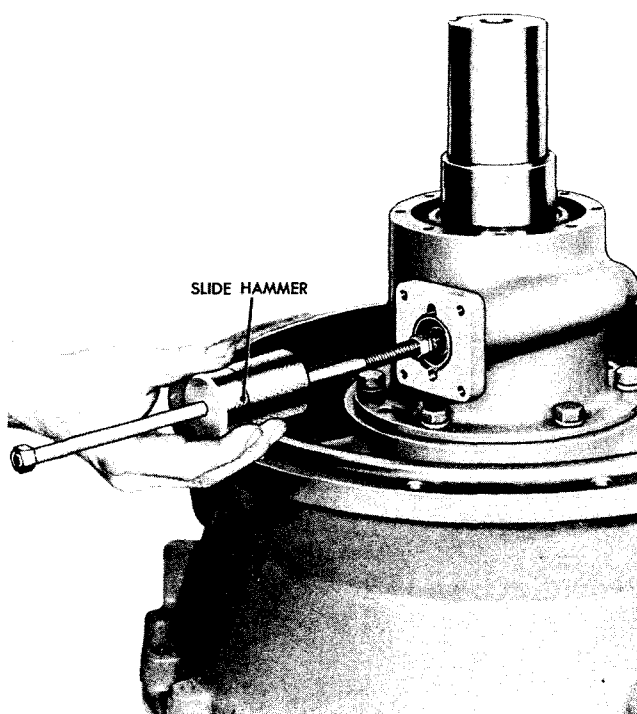

Fig VI-25. Removing accessory drive shaft
(5) Install a slide hammer puller into the accessory drive shaft (fig. VI-25). Remove the accessory drive spacer, accessory drive sleeve coupling, accessory drive shaft